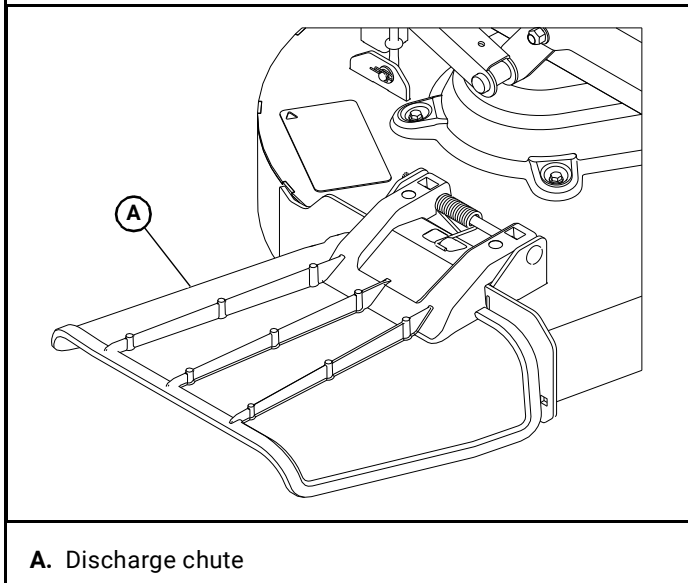

Figure 3-8
- Never operate the mower deck with the discharge chute damaged, altered, removed, or in the raised position, except when the entire grass catcher attachment or mulching system is being used. Figure 3-8